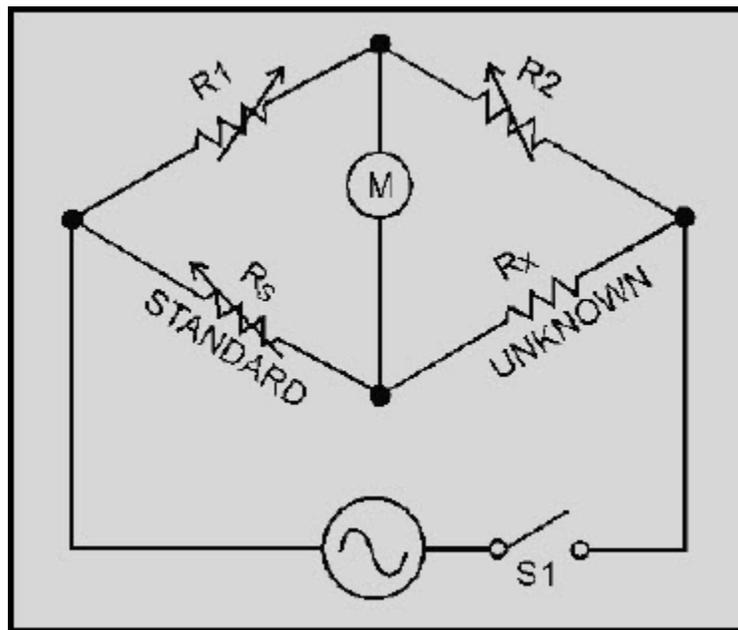

Figure 1-6 Resistance bridge (ac)
**RESISTANCE BRIDGE** - An ac signal generator, as shown in figure 1-6, is used as the source of voltage. Current from the generator passes through resistors R1 and R2, which are known as the ratio arms, and through Rs and Rx. Again, Rx is known as resistance. Rs has a standard value and replaces R3 in figure 1-6. When the voltage drops across R2 and Rs are equal, the voltage drops across R2 and Rx are also equal; no difference of potential exists across the meter and no current flows through it. As we discovered with the Wheatstone bridge, when no voltage appears across the meter, the following ratio is true:
For example, if in figure 1-6 we know that R1 is 20 ohms, R2 is 40 ohms, and Rs is 60 ohms, we can find the value of Rx using our formula as follows: